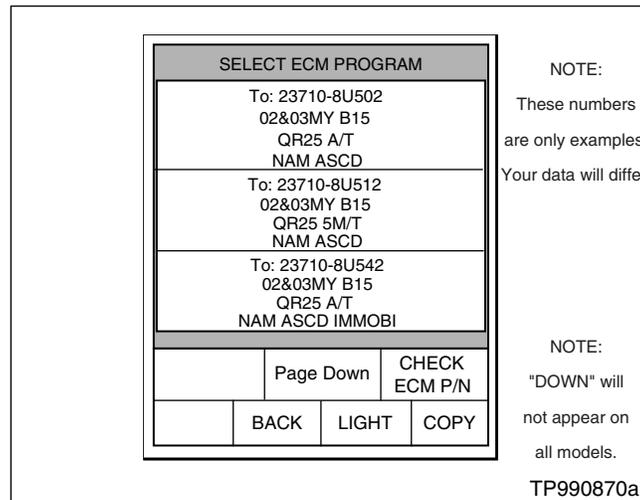

Figure C9
17. Now go to the CONSULT-II screen and select the correct ECM program to install from the choices on the screen (see Figure C9). Refer to the new ECM P/N note in the "number match" note you made in step 16.